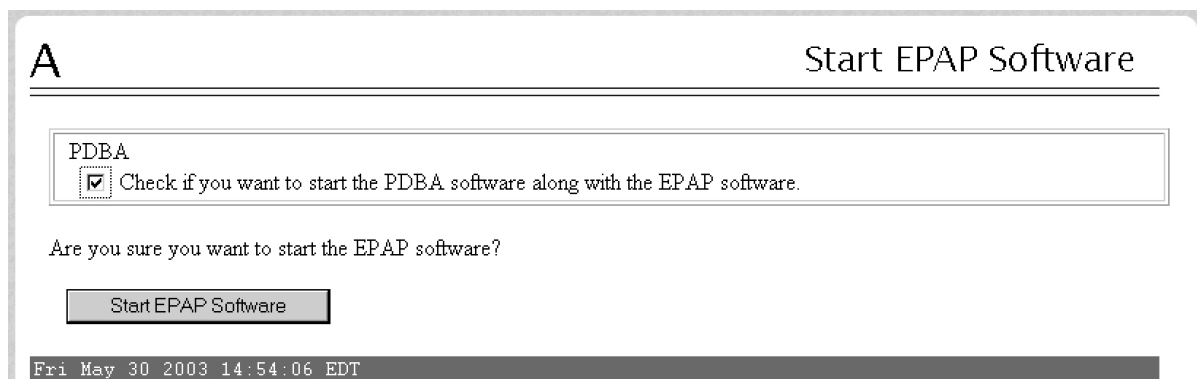

Figure 49: Start EPAP Software
7. From the **Start EPAP Software** screen, make sure the checkboxes are checked as shown in Figure 49: Start EPAP Software (this item applies only if performing this procedure on Side A):